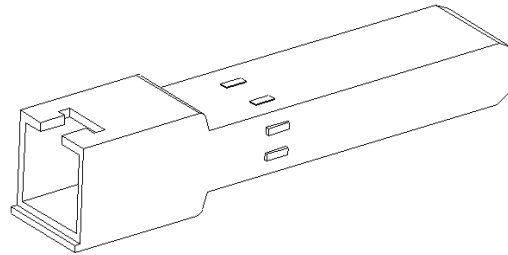

Figure 19 Gigabit SFP Electrical Module
- Figure 19 shows an example of a Gigabit SFP electrical module;